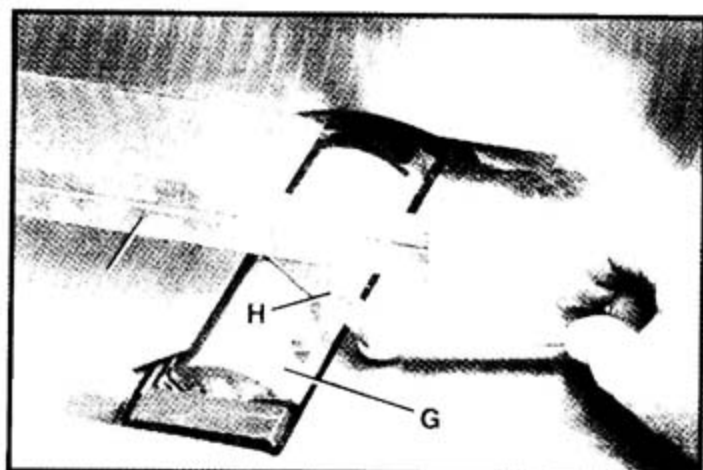

Fig. 60
10. Carefully rotate the cutterhead (G) Fig. 60, until the round portion of the cutterhead is on top as shown.
11. Place a .060" feeler gage (H) Fig. 60, on the cutterhead and using a straight edge (J) on the rear table adjust the height of the rear table until it is .060" above the cutting-head diameter, as shown.